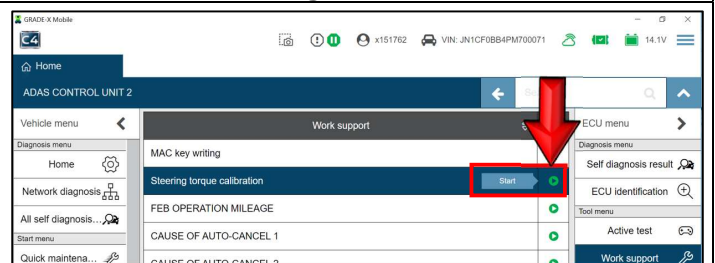

Figure 35
32. Select Steering torque calibration. (Figure 35)